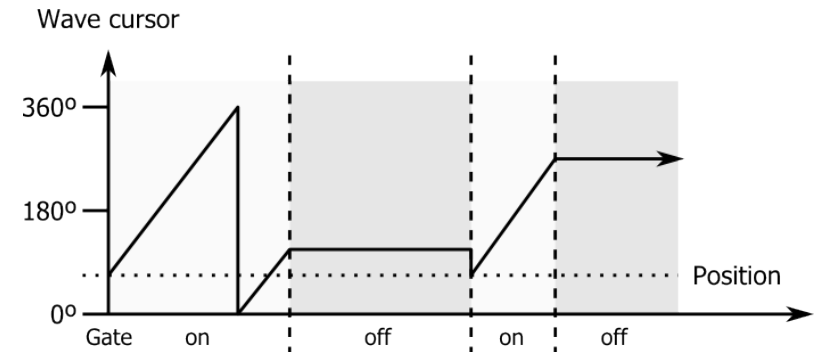

Figure 9: Travel - Gated mode
With a precision screwdriver, scale is rectified turning the *Pitch CV Trimmer* (14). Trimmer hole can be seen on *Figure 9*. The *pitch scale* is properly adjusted when a specific note's fundamental frequency is exactly doubled when played one octave higher.